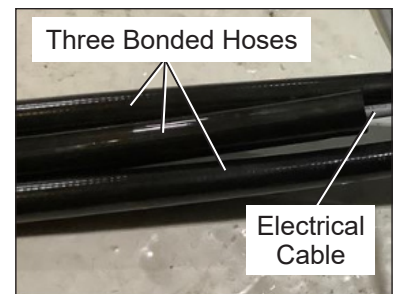

Figure 4 — Triple Bonded Hose
- If the hose assembly is a triple bonded hose with no electrical cable visible on the outside (refer to Figure 4), mark "No" for the street side hose in Figure 5.